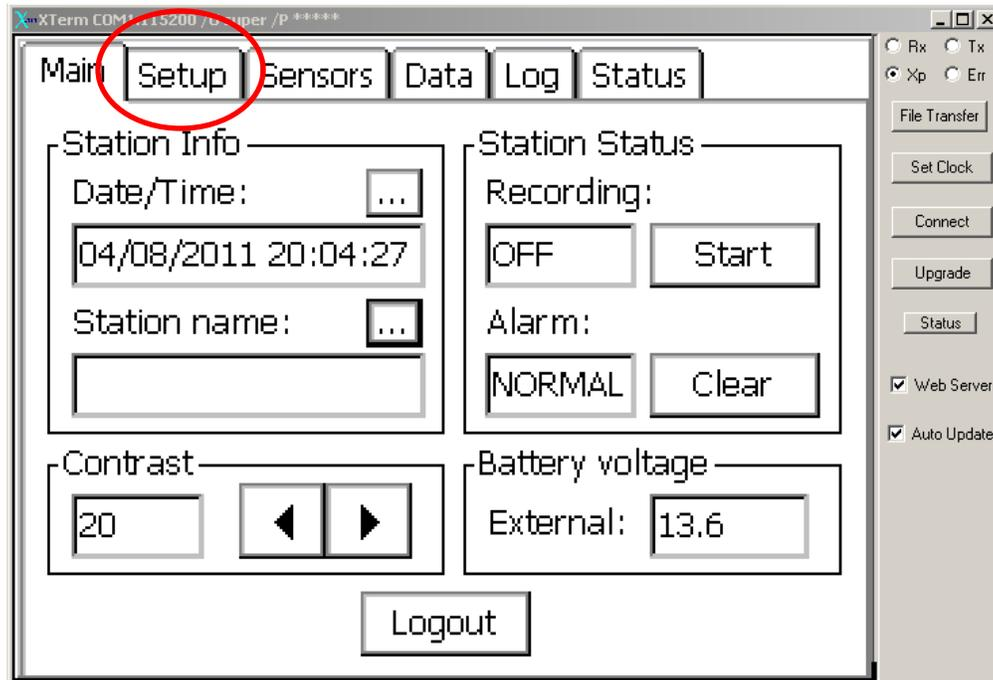

Figure 3-20. Setup Access screen.
9. After the **Setup Access** button is selected, the screen shown in fig. 3-20 will appear.